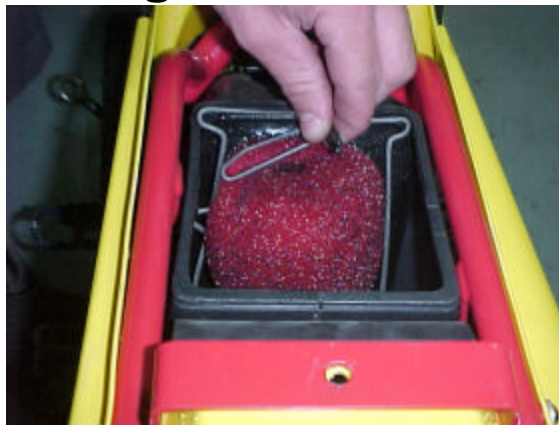

Figure A1
- Squeeze the two tabs together as shown in figure A1 and pull the wire retainer up and out of the air box